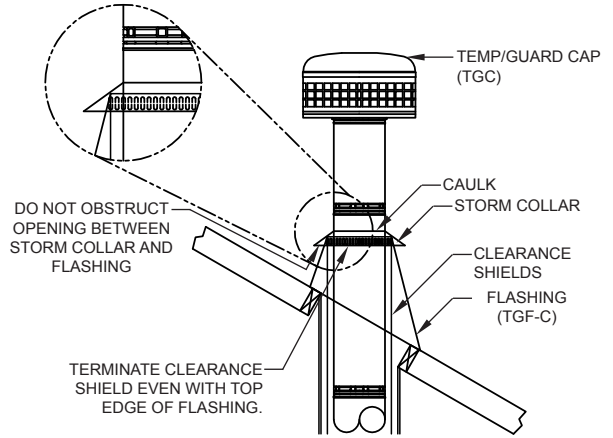

FIG. 24
5. For wood or coal stove applications where the attic or levels below the roof are enclosed the clearance shields must be used (See FIG. 24). Continue installing the Temp/Guard pipe sections until the proper termination height is reached. Continue the clearance shields up through the flashing and terminate at the top edge of the flashing. The storm collar will cover the openings between the Temp/Guard chimney, shielding and flashing.